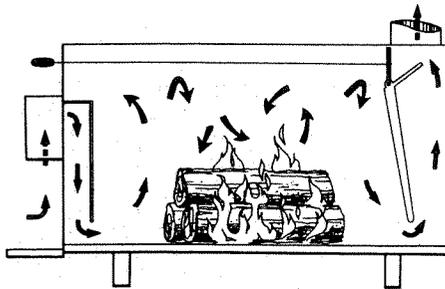

Fig. 67. Thermo-Control's heat-flow pattern.
8. **Thermo-Control Wood Stoves** (manufacturer), Box 640—Howe Caverns Rd., Cobleskill, NY 12043. A gasketed door and preheat chamber for primary and secondary air are features of the Thermo-Control stoves (Fig. 67 and Table 7). Downdraft baffle system results in a heat-flow pattern similar to that of the Riteway and Vermont Castings stoves. Available also with hot-water heating connection, warm-air hood, or domestic hot-water piping. Model 300 is for fireplace hookup. All models have bypass control damper for quick starts.